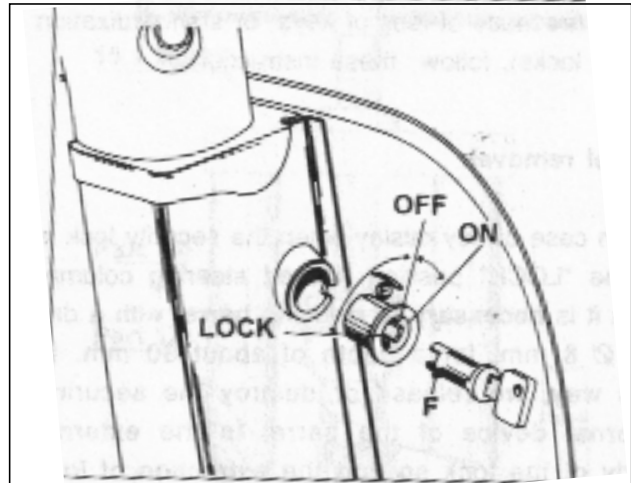

Fig. 212
- (b) Fit, after having mounted the securing spring plate 'E' as indicated in fig.212, the lock body in its seat.